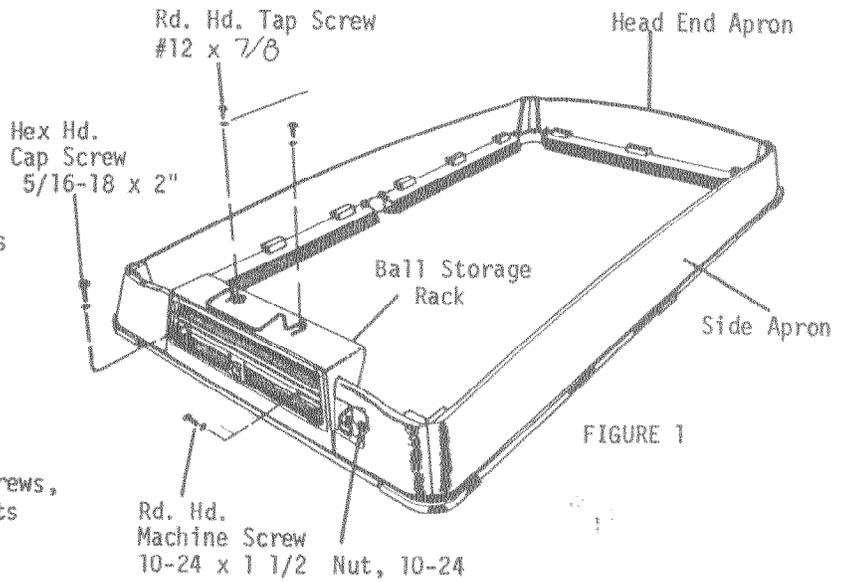

FIGURE 1
16. Attach ball storage rack securely to foot end rail two places with hex head cap screws 5/16 - 18 - x 2" and washers. (Figure 1)
17. Attach the foot end aprons to ball storage Rack (Figure 1) with round head machine screws, #10 - 24 x 1 1/2", flat washers and hex nuts 10 - 24 (2 ea.)
19. If assembling a pocket table, the triangle rack may be installed at this time as shown in Figure 1.